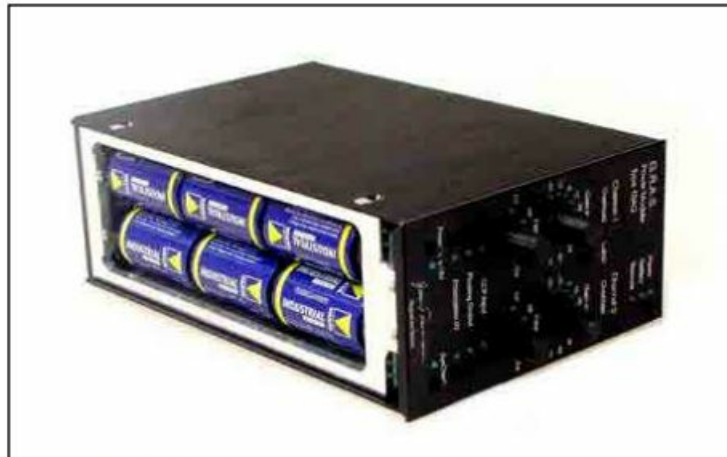

Fig. 3.1 Showing the battery compartment of the Type 12AQ
- Fig. 3.1 shows the battery compartment after removing the base plate. Always use a fresh set of battery cells (6 x LR14 {C}) standard alkaline cells) when replacing spent cells, making sure that the polarity is as indicated in the battery compartment.